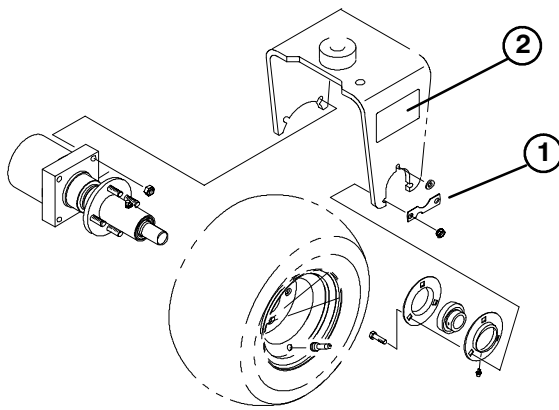

Figure 2
4. Insert flangettes and bearing onto end of motor shaft as shown in figure 2.
6. Position motor hub, flangettes w/bearing and tire assembly into castor fork. Ports on motor to face to rear (Fig. 2).
7. Loosely secure motor to right, inside of castor fork with (2) socket head capscrews and (2) nuts (Fig. 2).
8. Loosely secure flanges w/bearing to left inside of castor fork with (3) capscrews, locknuts, and a bearing tab. Grease fitting must be in downward position on flange (Fig. 2) Tighten motor capscrews to 85 ft-lbs and flange capscrews to 30 ft-lbs.
13. Apply decals to each side of castor fork as shown in Figure 2.